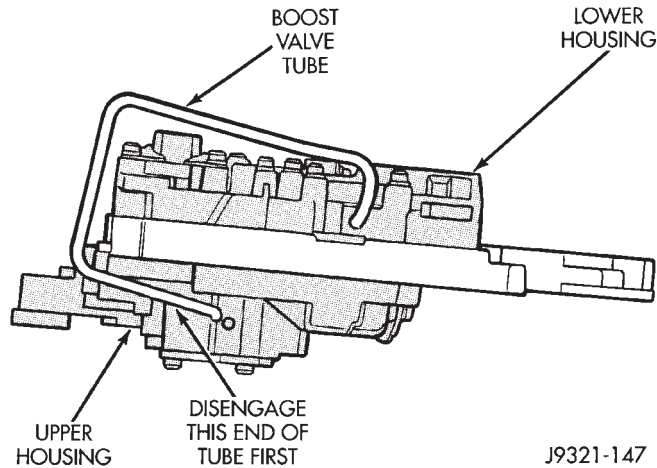

Fig. 66 Boost Valve Tube
(27) Remove boost valve connecting tube (Fig. 66). Disengage tube from upper housing port first. Then rock opposite end of tube back and forth to work it out of lower housing.